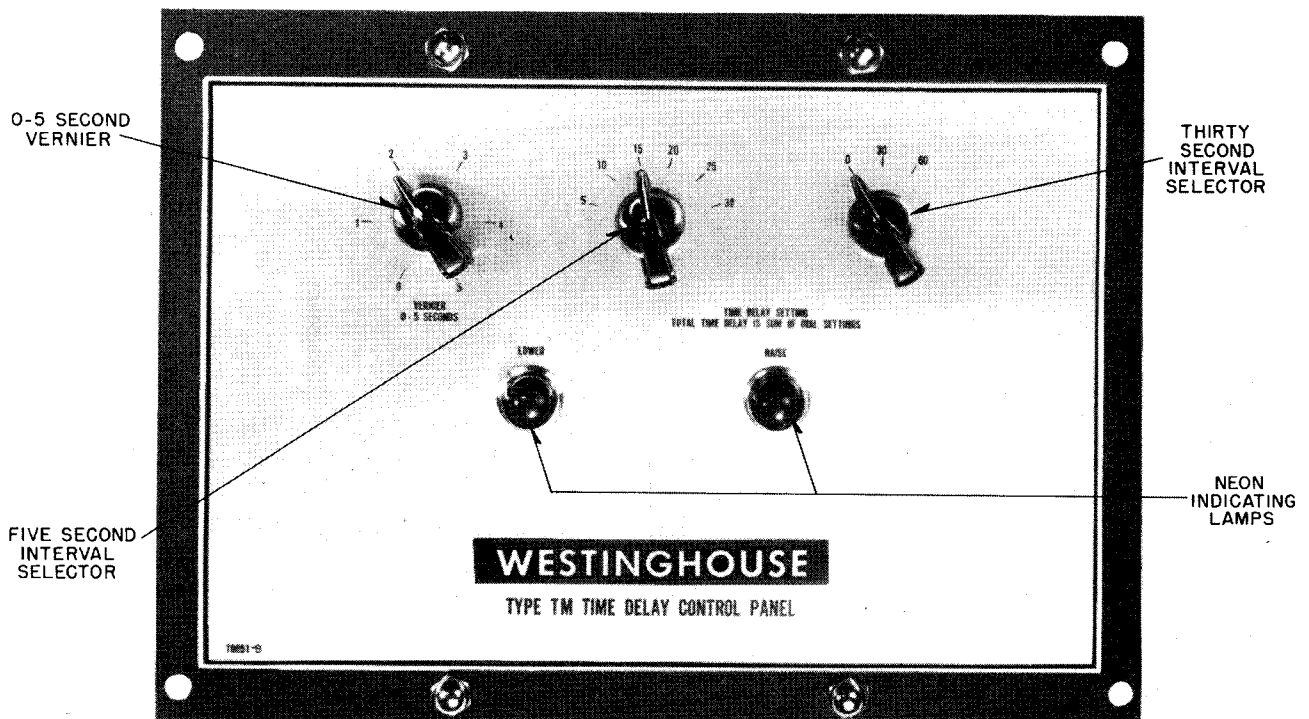
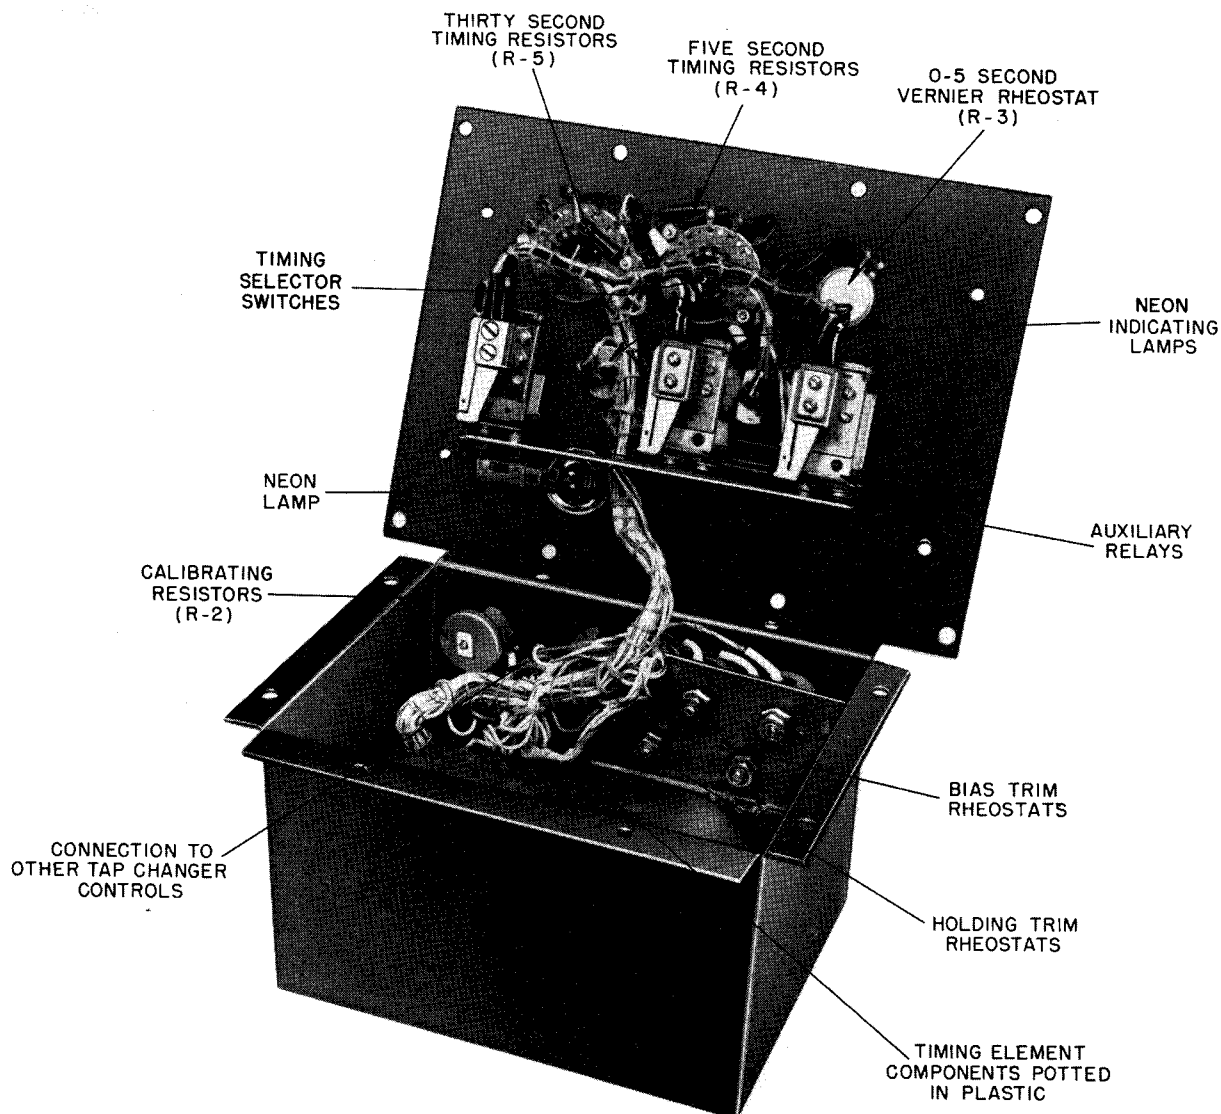

FIG. 2. Front View of TM Time Delay Relay
FIG. 4. Rear View of TM Relay Panel
**Time Delay Relay.** The TM time delay relay is shown in detail in FIGS. 2 and 4. An electrical matching network which is energized by the MS voltage regulating relay is sealed in the housing shown in FIG. 4. This matching network provides a reversible polarity voltage signal to be electrically timed by a resistance-capacitance timing circuit. The capacitance element is sealed in the housing. The timing resistance consists of a rheostat plus fixed resistors which are used in steps to provide the
desired delay setting. The rheostat is attached to the control panel while the fixed resistors are connected between terminals of the tap switches as shown in FIG. 4. A neon tube mounted on the rear of the control panel measures the voltage on the capacitor and, at the set delay, controls a MAGAMP magnetic amplifier which is sealed in the housing. The magnetic amplifier energizes two of the relays shown mounted on the rear of the panel, one relay for "raise" operation and one for "lower" operation, through contacts of the slug relay. The slug relay (WNV) introduces a time delay to allow the Magnetic Amplifier to be under positive control, thus preventing malfunction of the "raise" and "lower" relay, when the control is energized initially.
Time delay settings are made by the use of calibrated dials shown in FIG. 2. One tap switch changes the timing resistance in steps to give five-second increments of time delay from five to thirty seconds while a second tap switch provides thirty-second increments from zero to sixty seconds. A rheostat provides a vernier range from zero to five seconds with a dial calibrated in one second increments. The vernier setting is added to the other settings, thus giving intermediate delays.